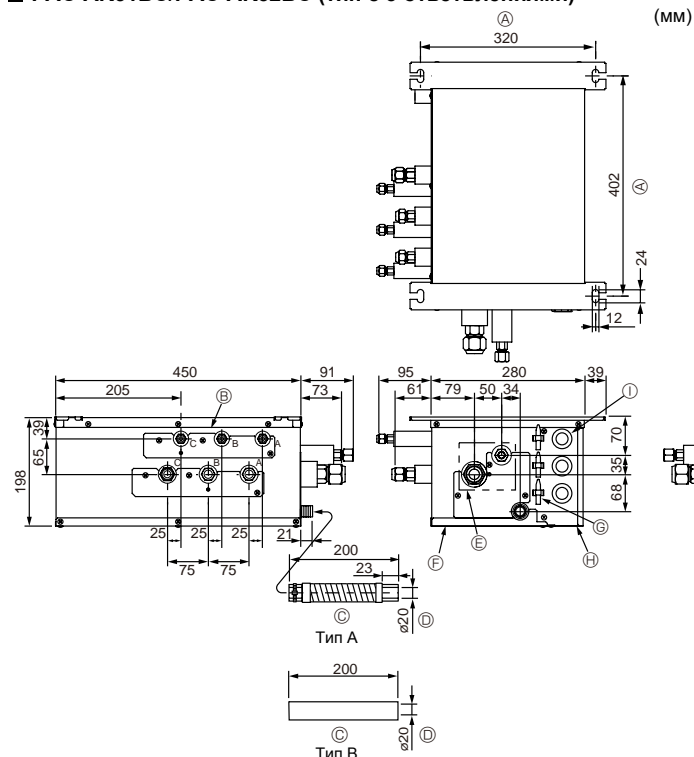

Fig. 4-4
■ PAC-AK31BC/PAC-AK32BC (Fig.4-4)